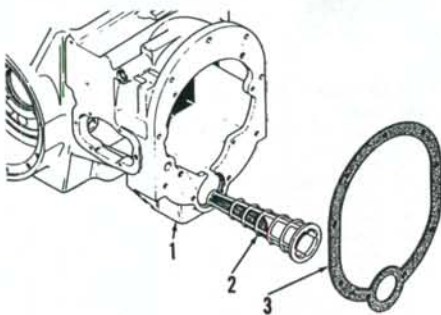

Fig. 253—View of transmission hydraulic oil screen on Model 2390, 2590, 2394 and 2594 tractors.
254. TRANSMISSION OIL SCREEN. To clean or renew transmission oil screen (2—Fig. 253), tractor must be split between torque tube and transmission housing as outlined in paragraph 142. Clean or renew oil screen (2) and reconnect tractor halves using new gasket (3).